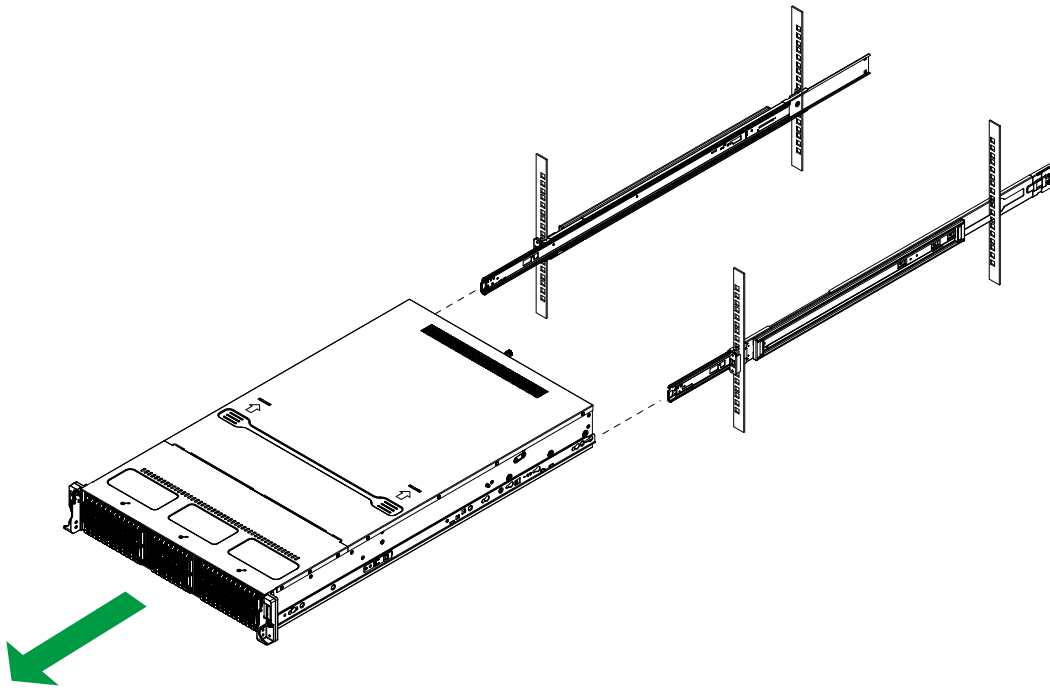

Figure 2-6. Removing the Chassis from the Rack
3. Press down the locking lever on the inside of the inner rail (Figure 2-6) to release the chassis. Continue to pull the chassis out of the middle rails.